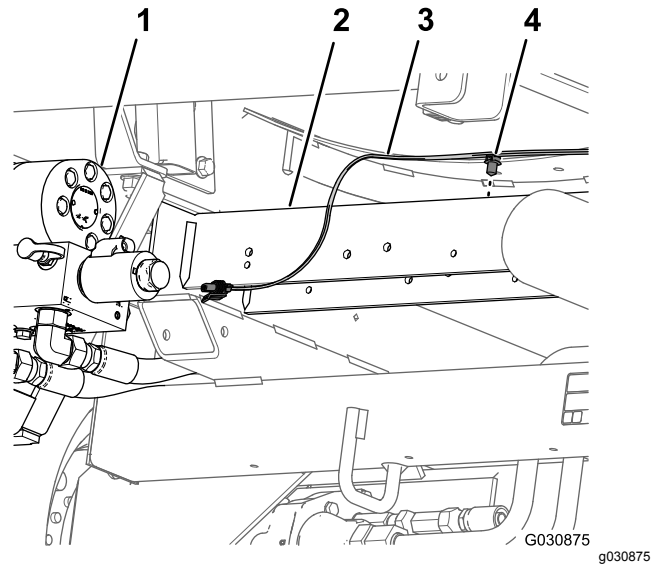

Figure 28
7. Remove the push-in fastener that secures the rear wire harness (Figure 28) to the holes in the rear cross tube (rearward of the hydraulic-traction motors).